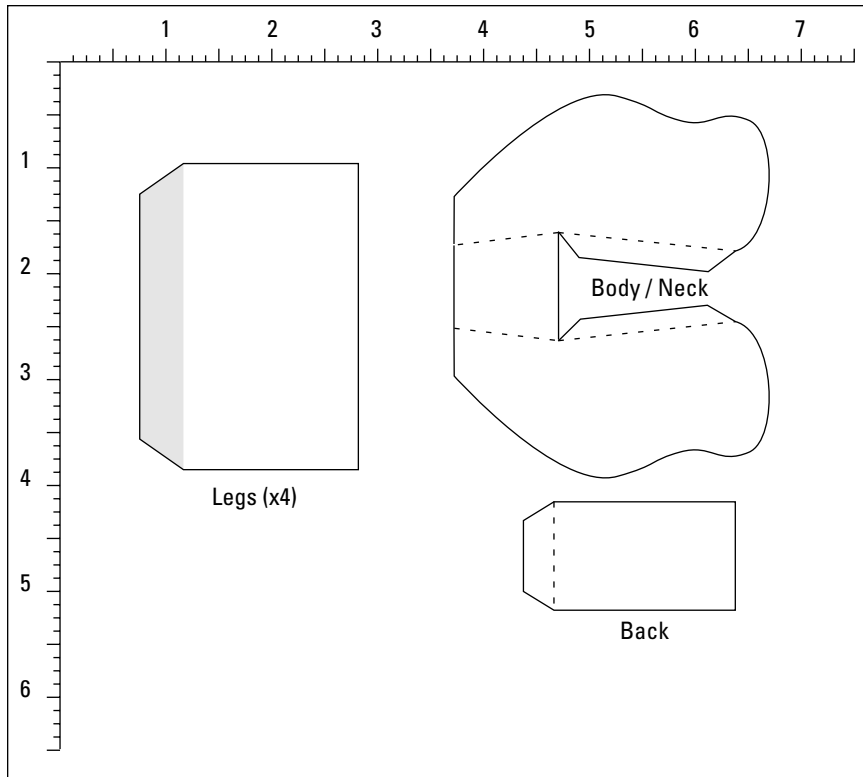

Figure 11-9:
1. **Copy the templates onto a sheet of card (refer to Figure 11-9) and score and cut out the pieces.**